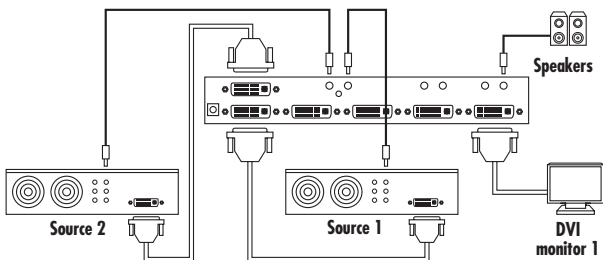

Figure 3-5. Connecting speakers to audio port 1.
2. Connect a pair of speakers to the switch's audio port 1. See Figure 3-5.